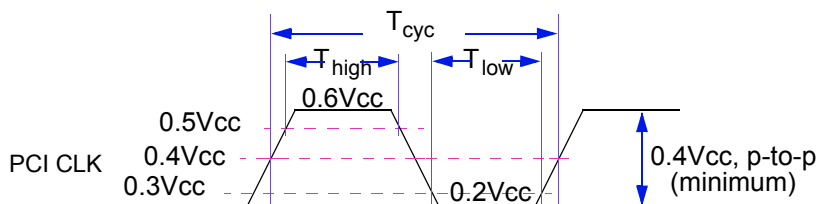

Figure 10. PCI CLK Waveform
The MPC5200 is always the source of the PCI CLK. The clock waveform must be delivered to each 33-MHz or 66-MHz PCI component in the system. Figure 10 shows the clock waveform and required measurement points for 3.3 V signaling environments. Table 22 summarizes the clock specifications.
2. Rise and fall times are specified in terms of the edge rate measured in V/ns. This slew rate must be met across the minimum peak-to-peak portion of the clock waveform as shown in Figure 10.